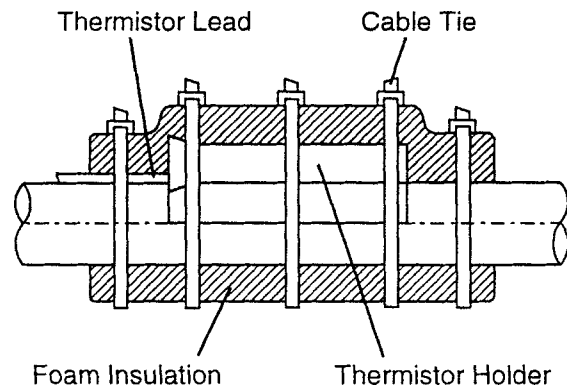

Fig. 1
- 5) Remove the Plastic Cable Ties, Foam Insulation, Thermistor Holder and Thermistor. See Fig. 1.